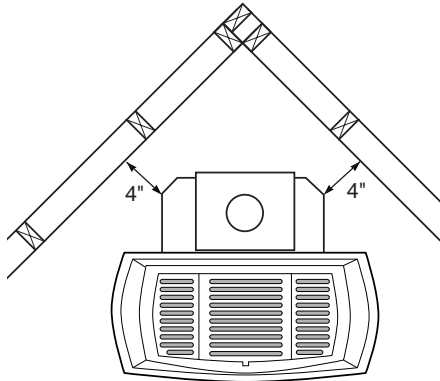

Figure 4 - Clearance for Corner Installation
3. Proper clearances must be maintained, see Figure 3 and Figure 4 on page 5.